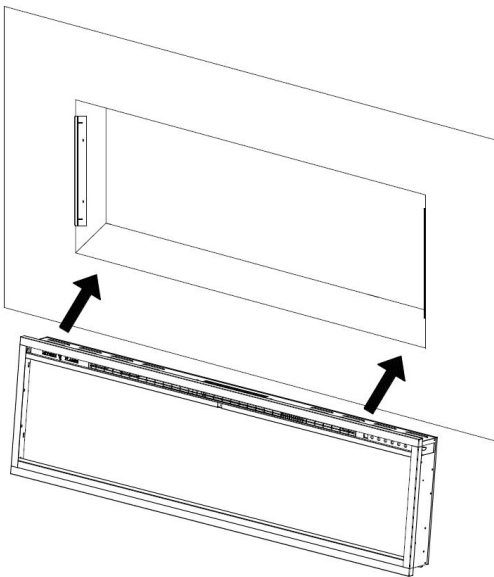

Figure 2-4
E. Insert the appliance into the rough-in frame and then secure it by installing 4 screws and two brackets (supplied) through the side holes (**Fig. 2-4**).